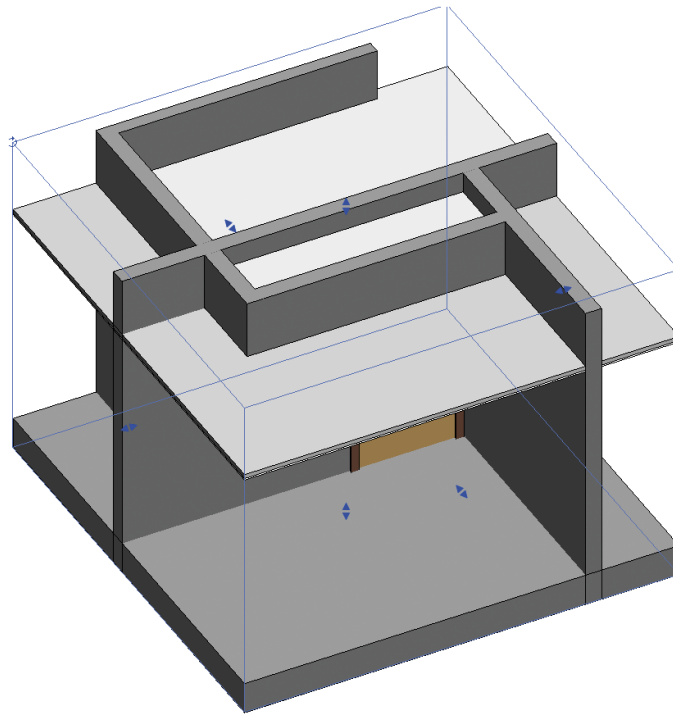

FIGURE 3.36 Final section box location in 3D view
8. Use the grip arrows to pull the boundaries of the section box to resemble Figure 3.36. You'll find that working this way is helpful because having both 2D and 3D views aids in communicating any design issues.